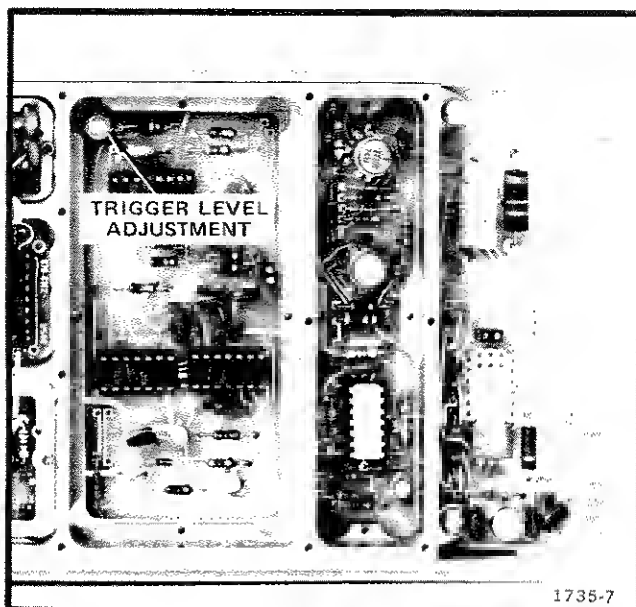
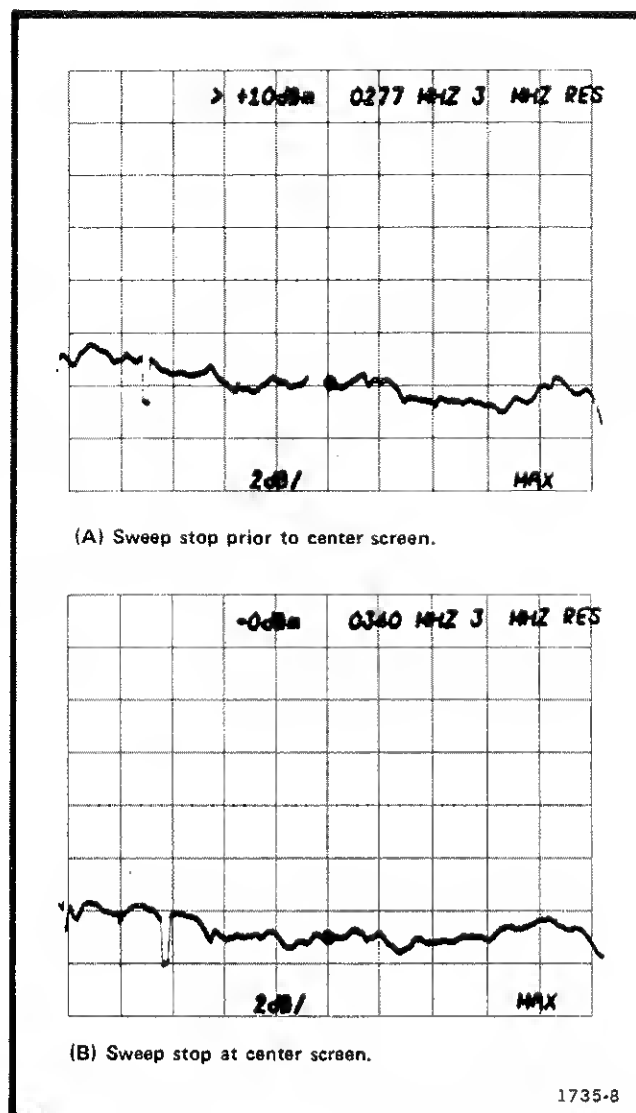

Fig. 4-4. Location of Trigger Level Adjustment.
Fig. 4-5. How the sweep stop should align to the dot position.
c. Adjust the Sweep Trigger Level R475 (Fig. 4-4) until the sweep stop point is next to the dot (Fig. 4-5).